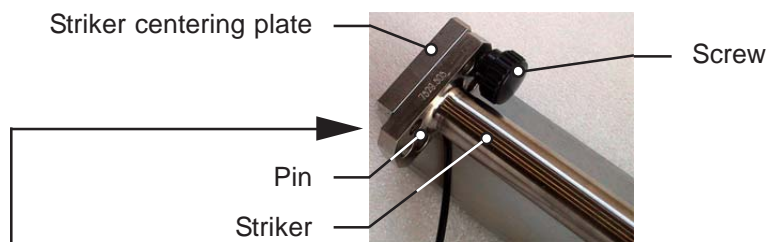

Fig. 5 - Detail of the striker fastened to the centering plate
- ▶ a) Place the striker against the centering plate centering the existing pin (Fig. 5) and fasten it with screws.
- ▶ a) Place the striker against the centering plate centering the existing pin (Fig. 5) and fasten it with screw. Skip this step if the striker is already installed on the fixture.